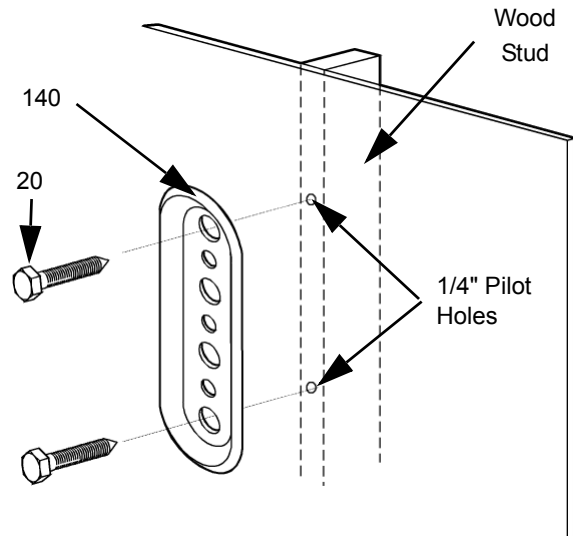

Figure 2: Secure Wall Bracket
2. Using the wall bracket (140) as a template, mark the two pilot holes for mounting the wall bracket. (see figure 2)